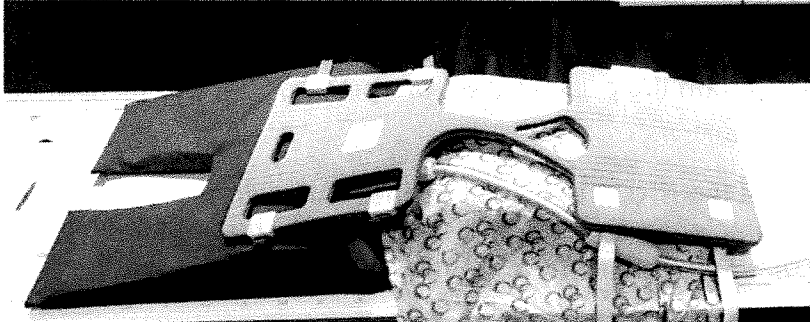

Figure 9: Initial head-first setup before loading patient and use of surgical liner. Bore is to the left.
- 3) After positioning the coil as shown in Figure 9, connect the anterior cable connector to the anterior coil receptacle, **tilt the coil on its side to connect the anterior connector to prevent the bending of the pins.** Route it through the prone scanning pad and move the coil so that the cable can connect to the corresponding connector port on the MRI scanner. **DO NOT PLUG THE CABLE INTO THE SCANNER.**